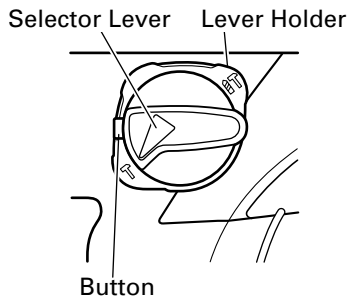

Fig. 8
- (b) Align ▲ of the selector lever and ▼ of the lever holder as illustrated in Fig. 8.